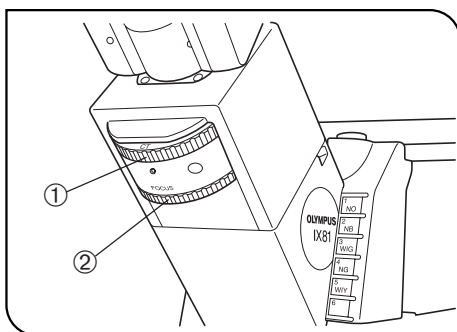

Fig. 41
3 Centering the Phase Contrast Ring Slit (Figs. 41 to 43)
2. When the U-BI90CT binocular observation tube is used, rotate the CT turret ① to position "CT". When the observation tube in use is other than the U-BI90CT, remove an eyepiece and attach the U-CT30 centering telescope in place. (Fig. 41)
4. Rotate the focus ring ② (or the knurled section when the U-CT30 is used) to focus on the ring slit ③ and the phase plate ④ of the objective.
(Figs. 41 & 42)